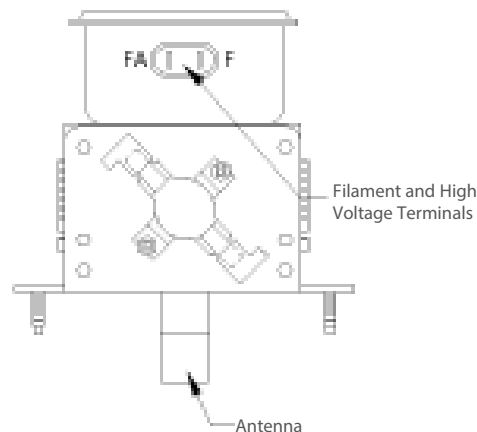

Figure 31: Magnetron Detail
2. Isolate the magnetron from the circuit by removing the wires from the F and FA terminals (Figure 31).
3. An ohmmeter connected between the filament terminals (F, FA) should indicate a reading of less than 1 Ω (Figure 31).